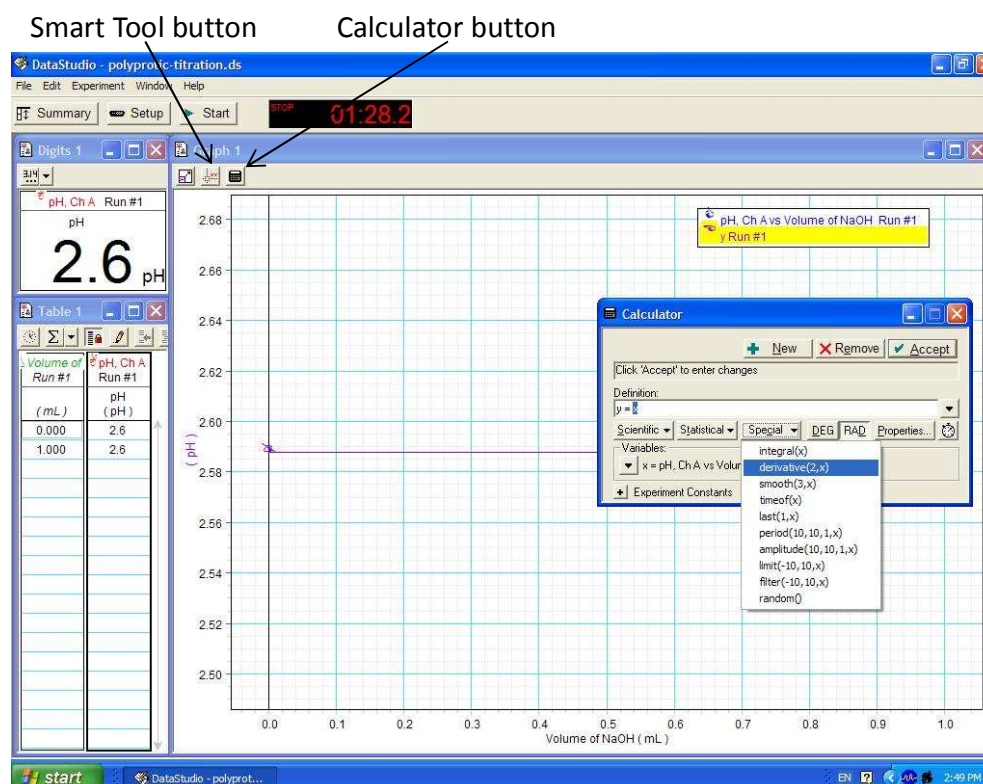

Figure 3: Calculation window at end of titration.
Determination of the equivalence points in the titration of phosphoric acid (see Figure 3)
3. Click on the Smart Tool button at the top of the graph (see Figure 3) and move the cursor to each of the two peaks in the ΔpH versus volume of titrant plot. Read the volume of titrant values at the tops of the peaks and record these in the data sheet at the end of this document.